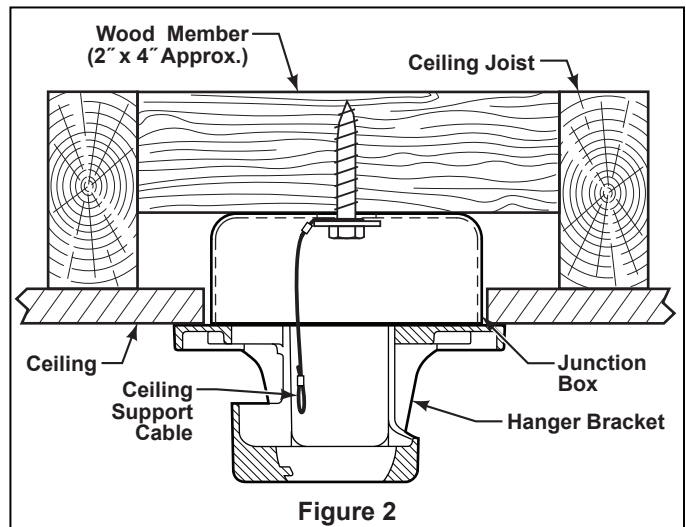

Figure 2
5. Loosen the two setscrews in the Downrod Support. Align the Clevis Pin holes in the Downrod with the holes in the Downrod Support. Install the Clevis Pin and secure with the Hairpin Clip. (Figure 2) Be sure to push the straight leg of the hairpin clip through the hole near the end of the clevis pin until the curved portion of the hairpin clip snaps around the clevis pin. The hairpin clip must be properly installed to prevent the clevis pin from working loose. Pull on the Downrod to make sure the clevis pin is properly installed. (Figure 2)
6. Route wires through opening in Motor Coupling Cover. Position Motor Coupling Cover on fan shown with open side facing down. (Figure 2)
9. While pulling up on the hanger ball, securely tighten the two 3/16-24 x 3/8" setscrews in the downrod support. (Figure 2)
1. Using the $\frac{3}{8}$ " x 2" lag bolt and flat washer, attach safety cable to ceiling joist or wood structural member. The lag bolt will pass through the flat washer, safety cable loop, the junction box and into the building structure (Figure 2). You will first drill a $\frac{1}{4}$ " pilot hole into the building structure to prevent splitting or cracking.
NOTE: Ceiling support cable cannot be secured to junction box only, it must be directly secured to ceiling joist or structural member using the $\frac{3}{8}$ " x 2" lag bolt and flat washer. (Figure 2).
- Slide remote Receiver into the Hanger Bracket (Figure 2).